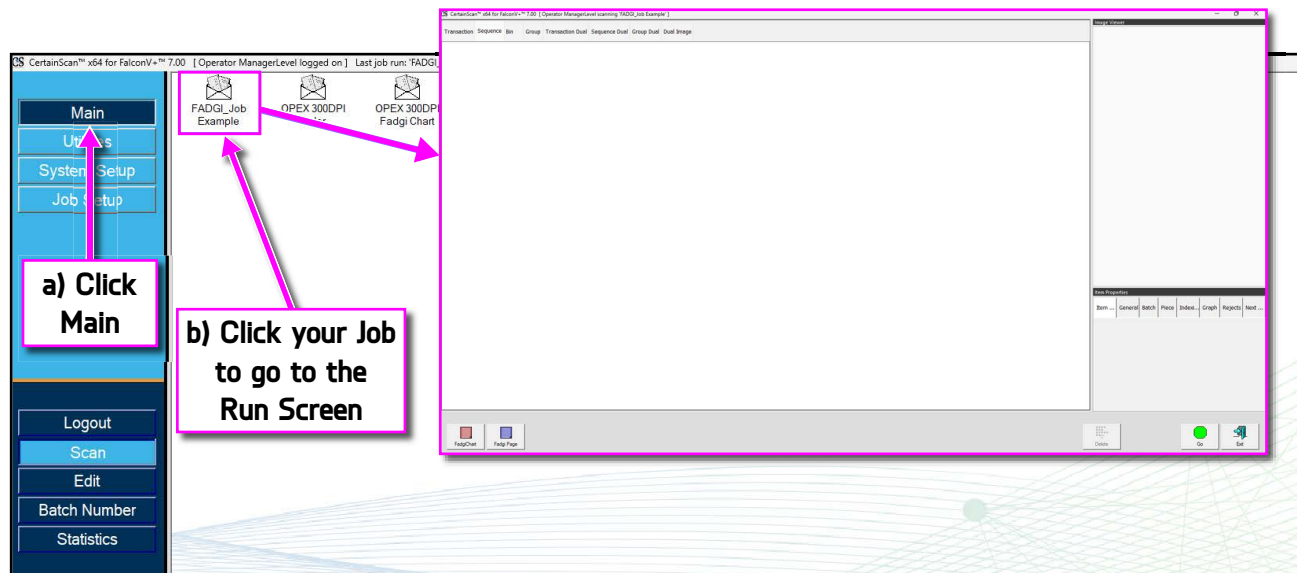

Figure 3-31: Start the FADGI Job.
1. To start the Job (Figure 3-31):